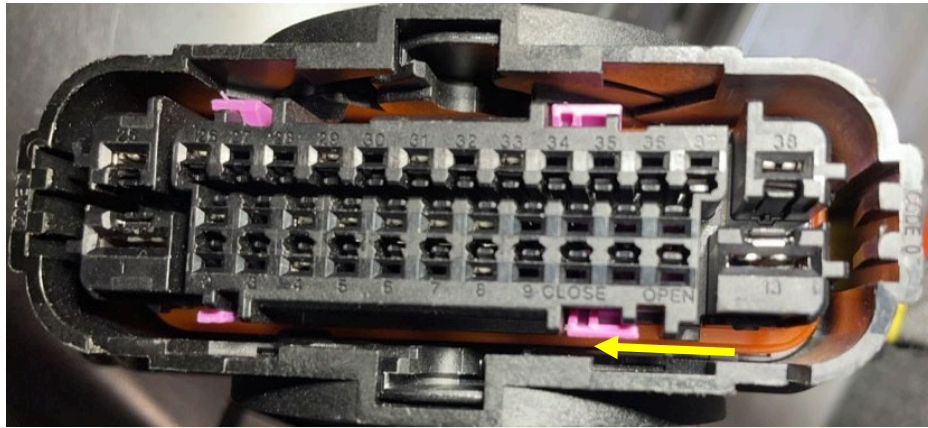

Figure 22
20. Use a pick to slide the large locking tab of connector X151 from “OPEN” to “CLOSE” (Figure 22).